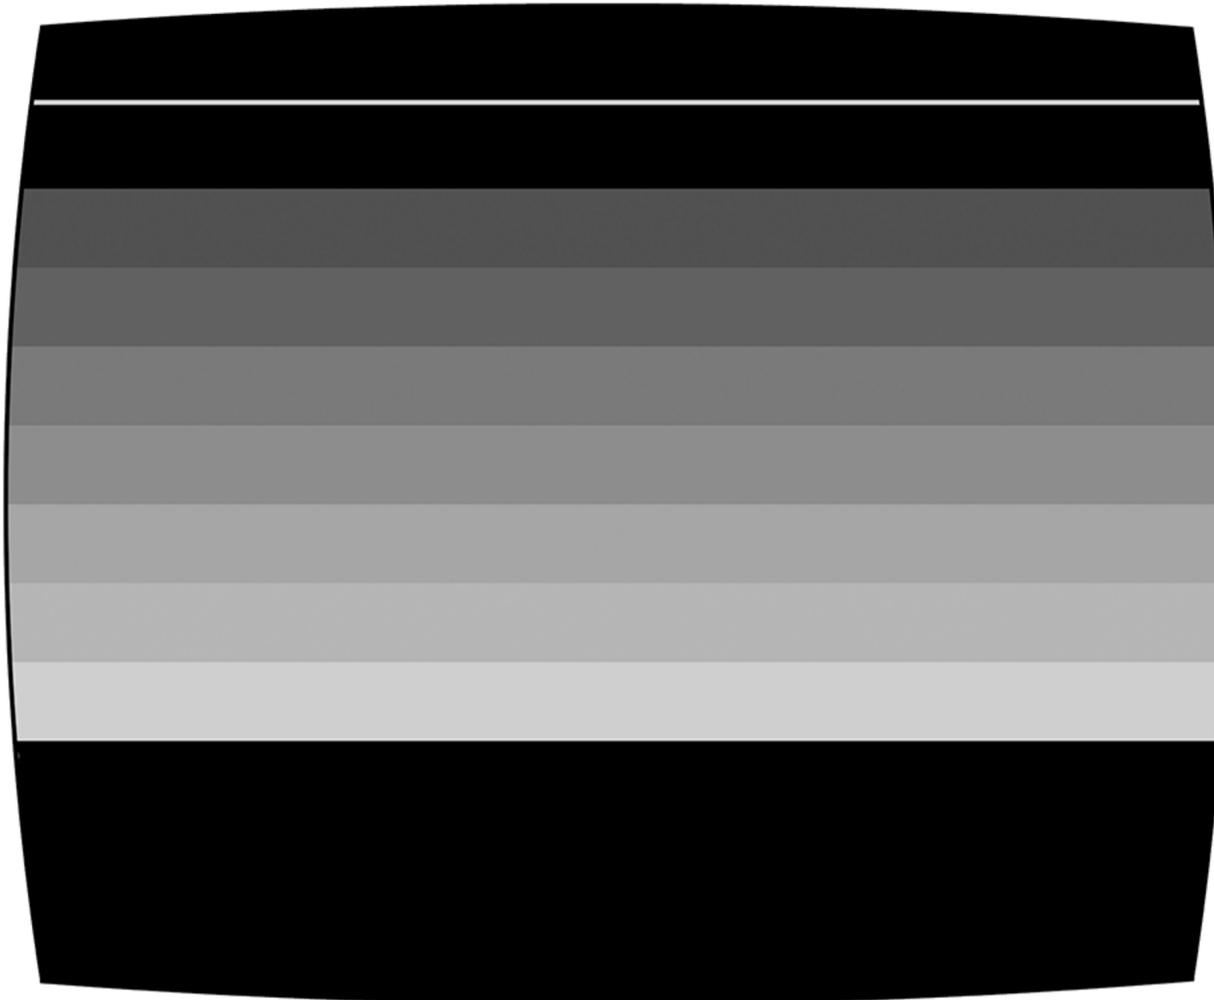

Figure 3-9. Gray Bars Screen
- Format: Move the Color/Black & White switch to the Black and White position. There should be eight horizontal gray bars displayed, going from black at the top to white at the bottom in even gradations (See Figure 3-9). The screen should be steady and unchanging. These lines may have minor glitches on their edges. A thin white line always appears just over the top (black) bar. No color should appear anywhere on the screen. The areas above the top (black) bar and below the bottom (white) bar are of no importance to the test. This test should be left on for at least ten seconds to ensure that there is no “flashing” of any color or shifting of the gray bars.